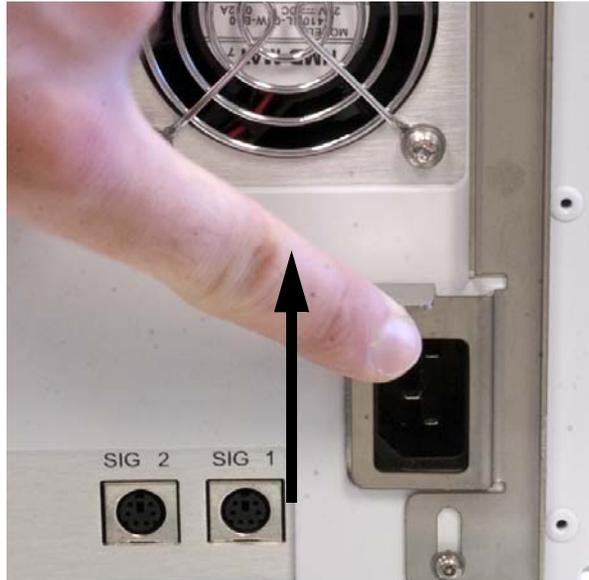

Figure 3 Power cord jack
- 6 Lift the safety bracket and plug the power cord into the back of the Main Frame (Figure 3).